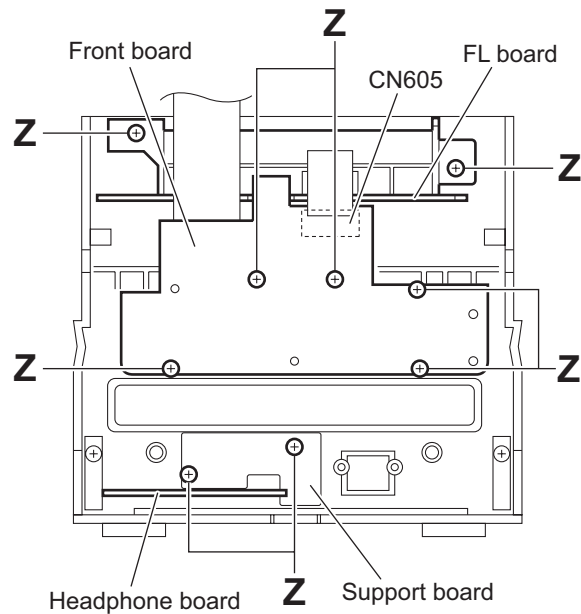

Fig.30
3.1.14 Removing the front board (See Fig.30)
(1) From the inside of the front panel assembly, disconnect the card wire from the connector CN605 on the front board.
(2) Remove the five screws **Z** and take out the front board.
3.1.15 Removing the FL board (See Fig.30)
3.1.16 Removing the headphone board (See Fig.30)